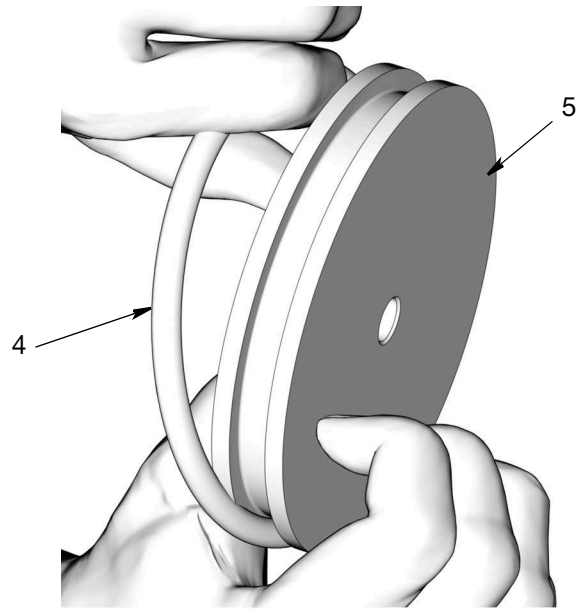

FIG. 23
23. Remove the o-ring (4) from the piston (5) (FIG. 23).